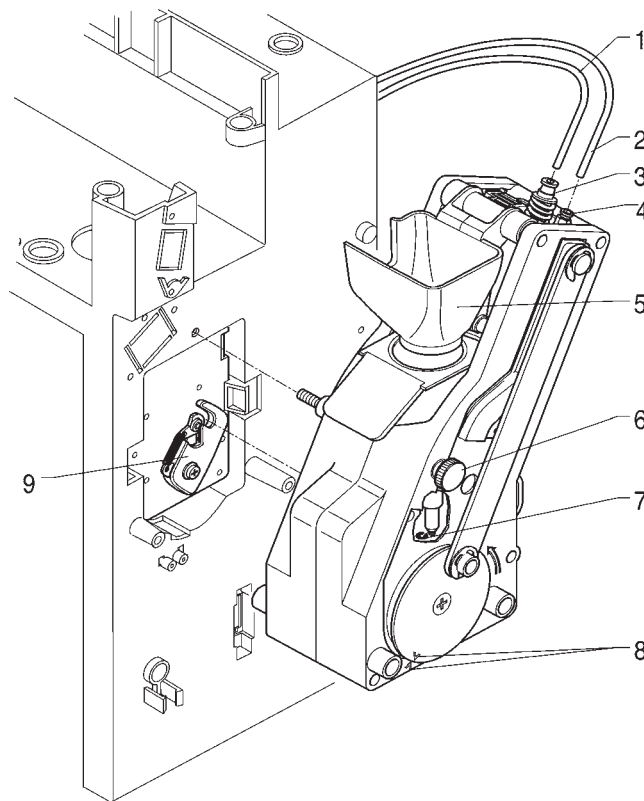

Fig. 21
- remove the Teflon hose from the upper piston, connected to the boiler and to the tube for hydraulic control of the piston, undoing the colour rings (see Fig. 21);
- Remove the coffee funnel (see Fig. 21);